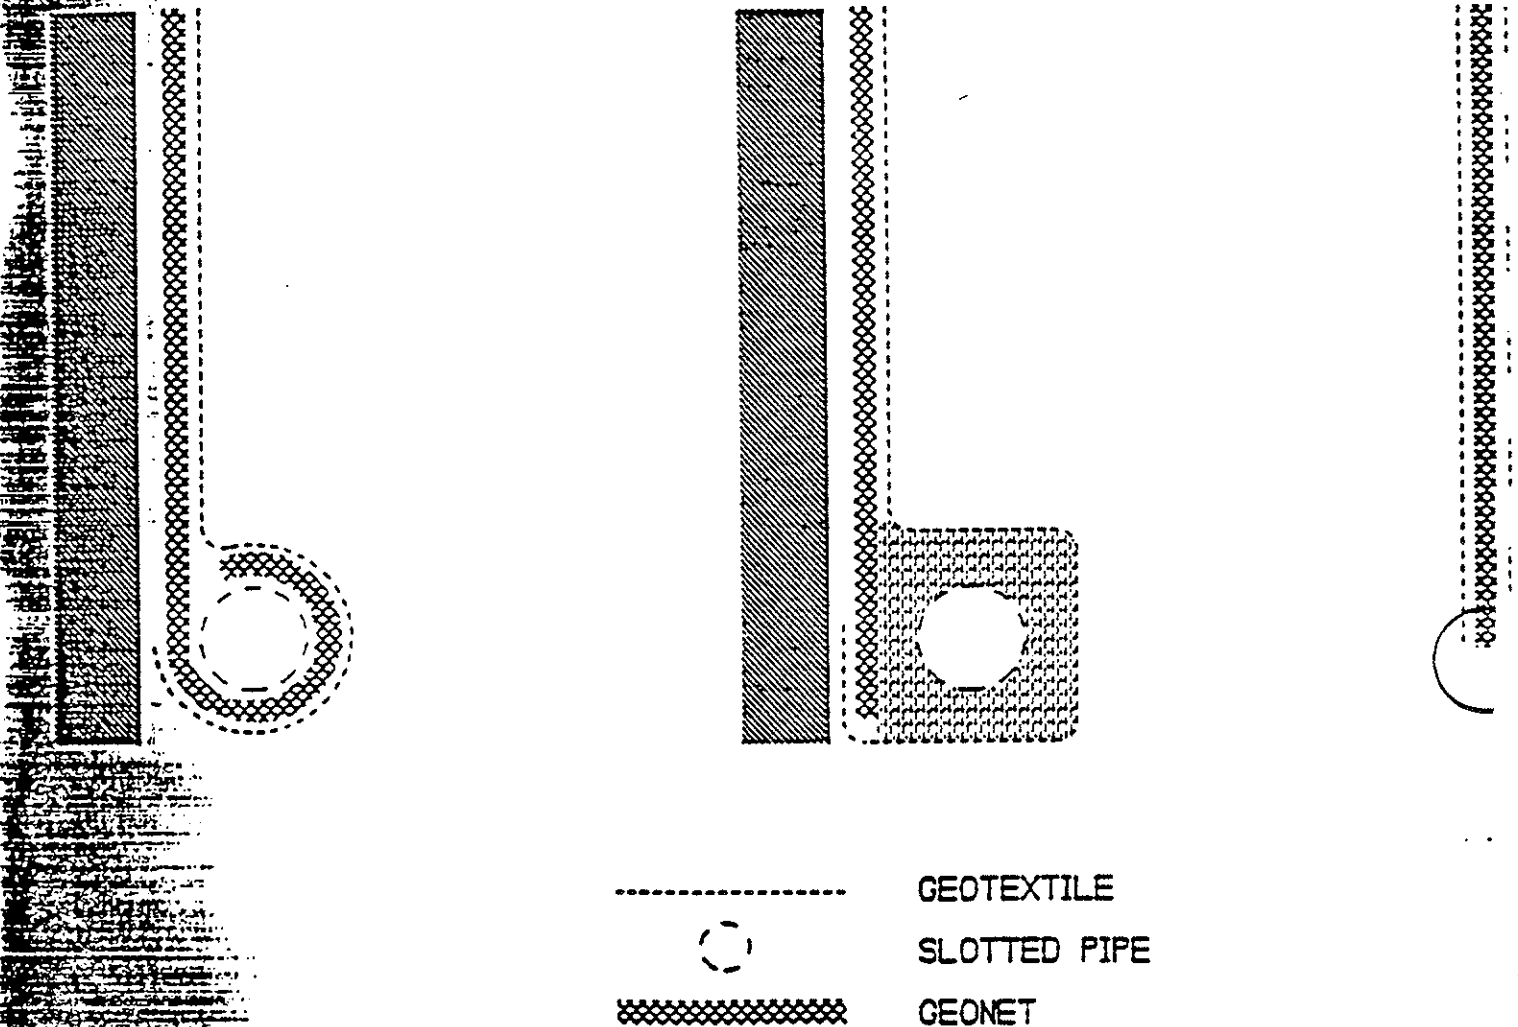

Figure 3: Connection of drainage nets with pipes.
- The net can be wrapped around a slotted or perforated pipe (Figure 3(a)).*
- The net can be embedded in the aggregate bedding surrounding the pipe (Figure 3(b)).*
- The net can be inserted into a specially designed pipe (Figure 3(c)).*